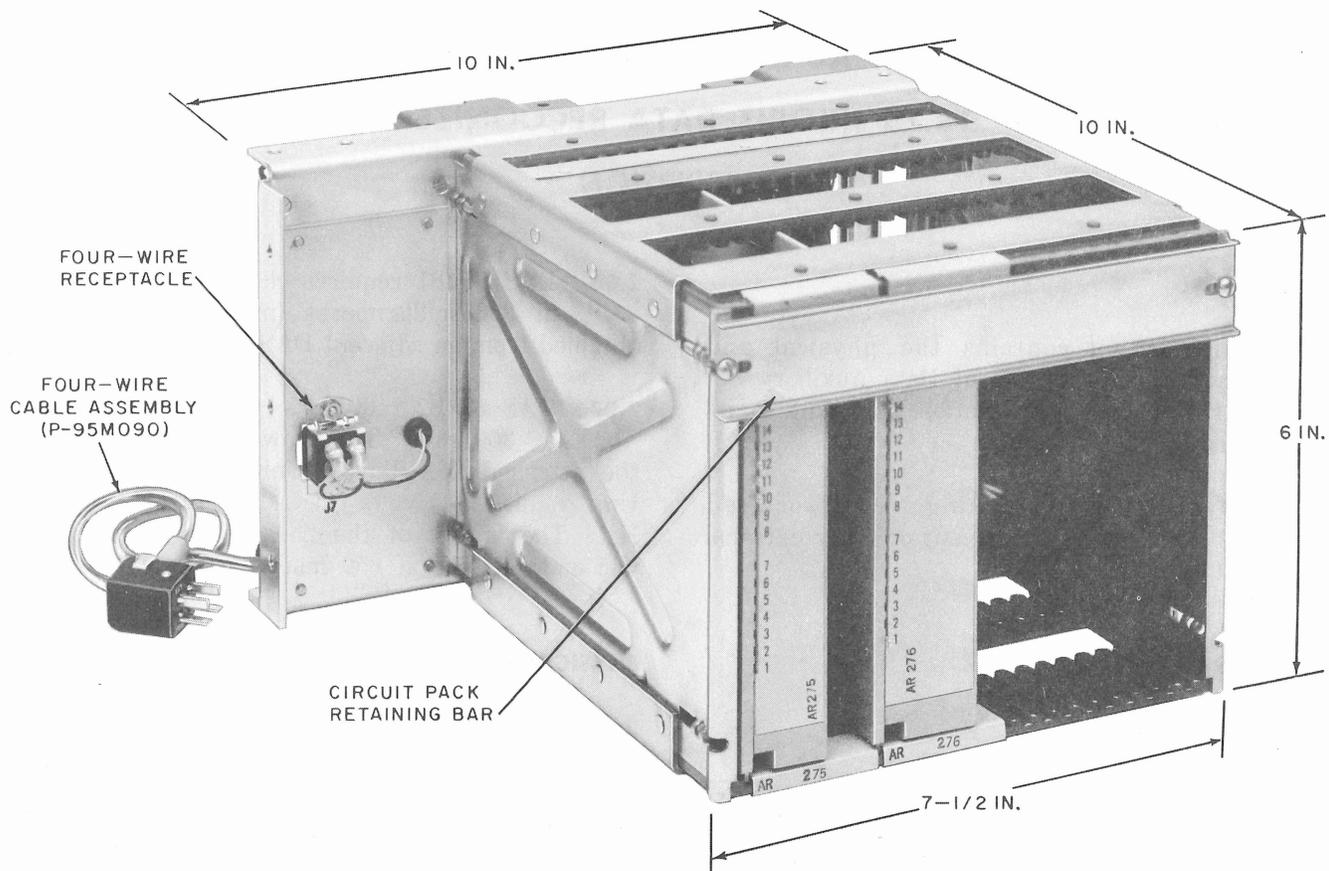

Fig. 1—Data Auxiliary Set 824B1, Front View
**2.08** DAS 824B-type measures approximately six inches high by ten inches wide by ten inches deep. The 824B1 weighs approximately 8 pounds and the 824B2 weighs approximately 13 pounds. (Refer to Fig. 1, 2, 3, and 4.)